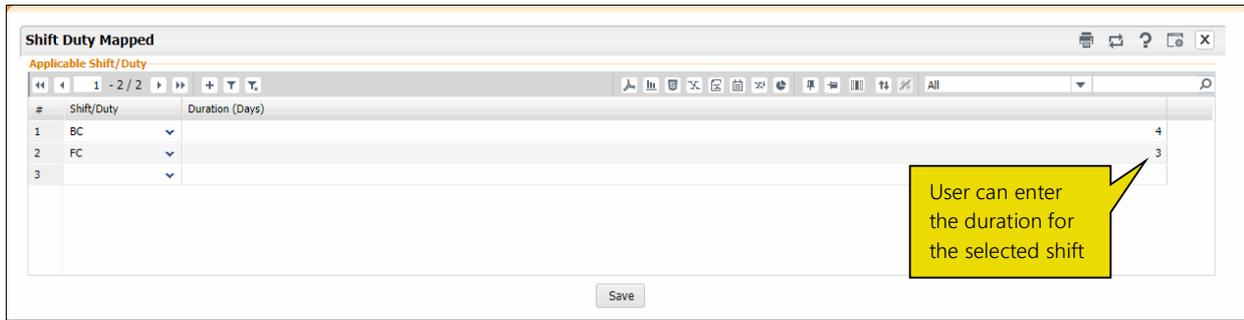

Figure 2.4 Shift/Duty Mapped pop-up
1. Use the drop-down list box to select the **Shift/Duty #** of the roster. See *Figure 2.4*.